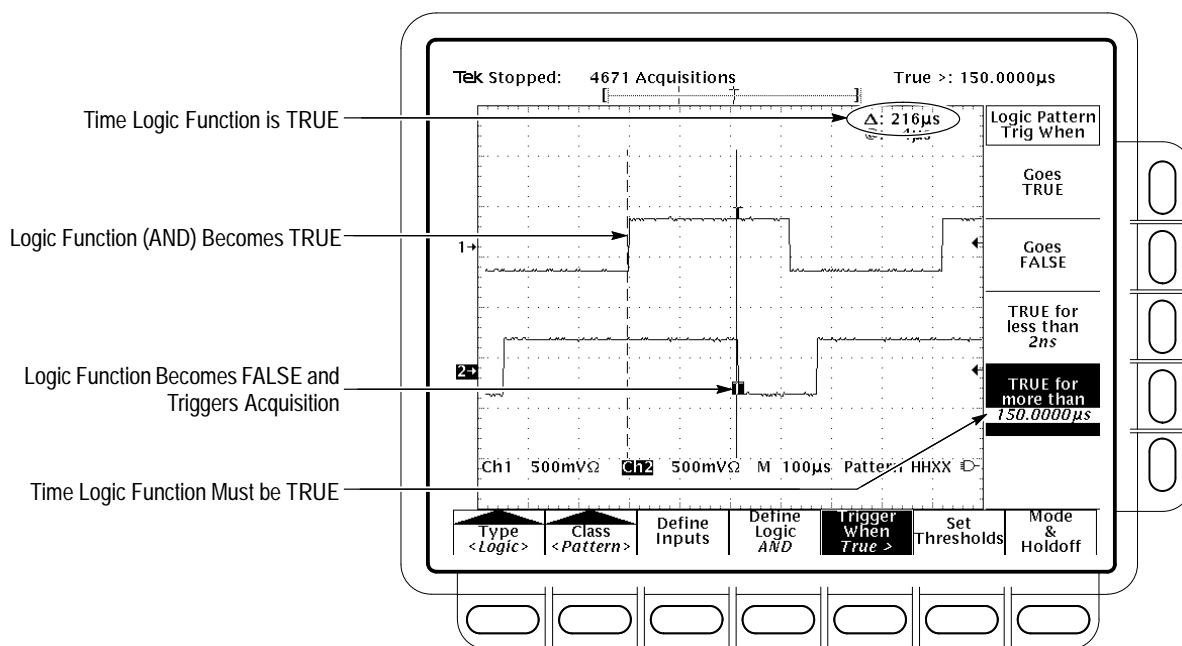

Figure 3–41: Logic Trigger Menu — Time Qualified TRUE
Note the position of the trigger indicator in Figure 3–41. Triggering occurs at the point that the oscilloscope *determines* that the logic function you specify is TRUE within the time you specify. The oscilloscope determines the trigger point in the following manner:
In Figure 3–41, the delay between the vertical bar cursors is the time the logic function is TRUE. Since this time is more (216  $\mu\text{s}$ ) than that set in the TRUE for more than menu item (150  $\mu\text{s}$ ), the oscilloscope issues the trigger at that point, not at the point at which it has been TRUE for 150  $\mu\text{s}$ .